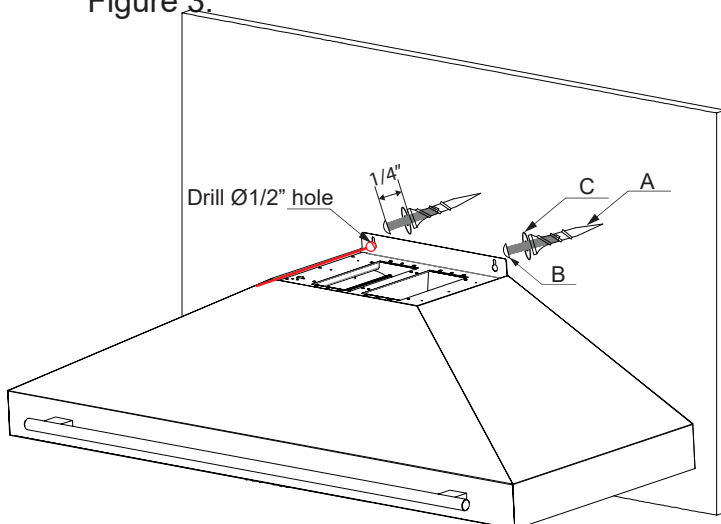

Figure 2.
- Remove the hood and drill $\frac{1}{2}$ " (0.50") holes at the marked points to fit the $\Phi 0.51$ " spiral plastic expansion anchors (A). See Figure 2.
- Insert anchors (A) into the drilled holes until fully flush with the wall.
- Position flat washers (C) over the mounting holes.
- Drive the #6-32 $\times$ 1-3/8" pan head screws (B) through the washers into the anchors.